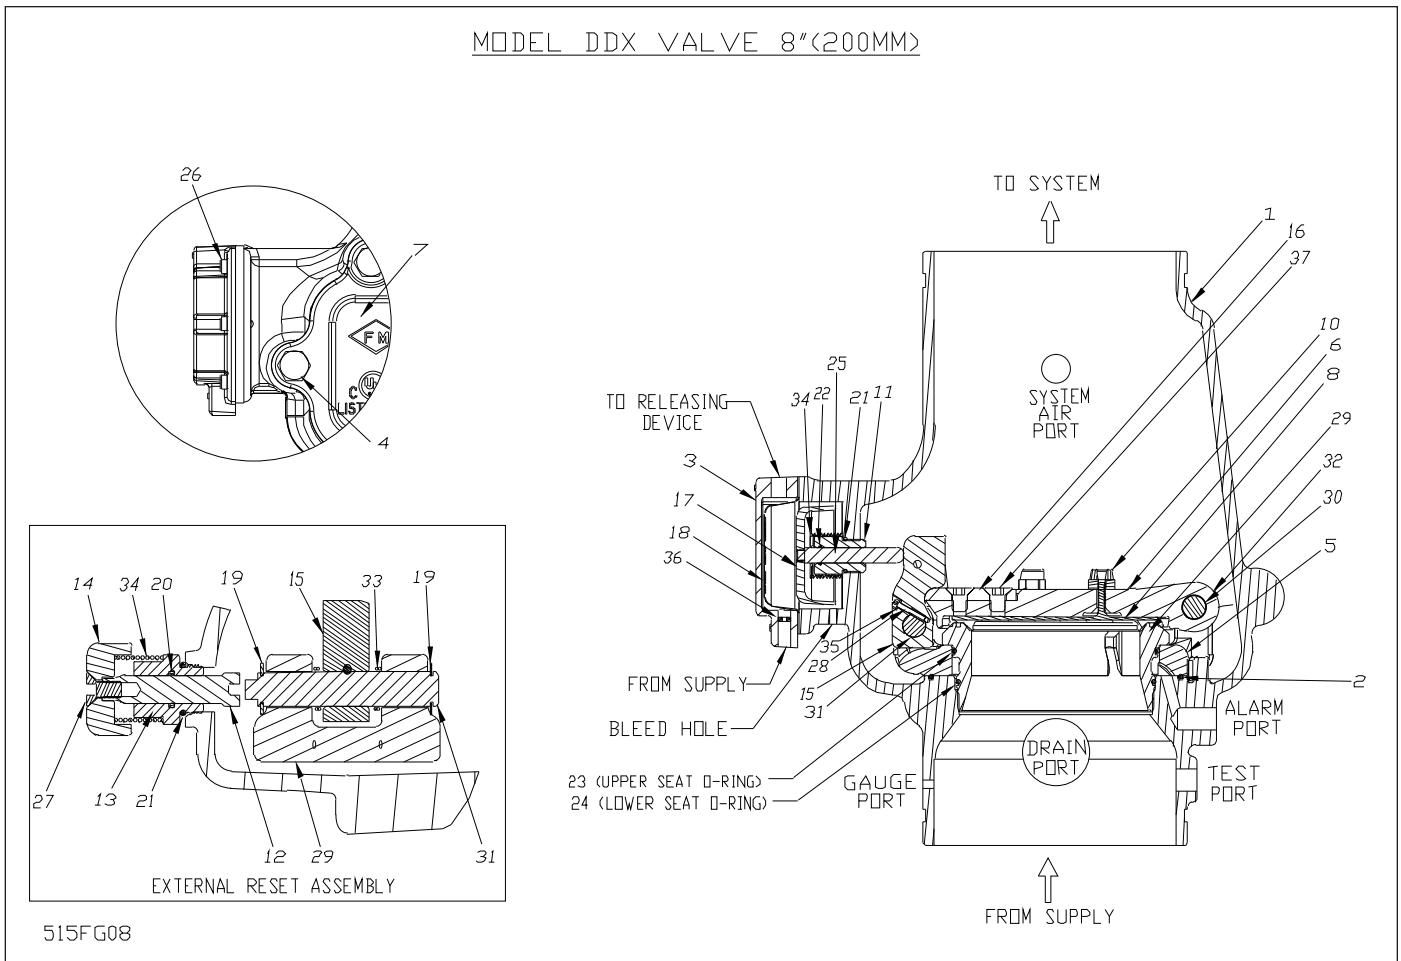
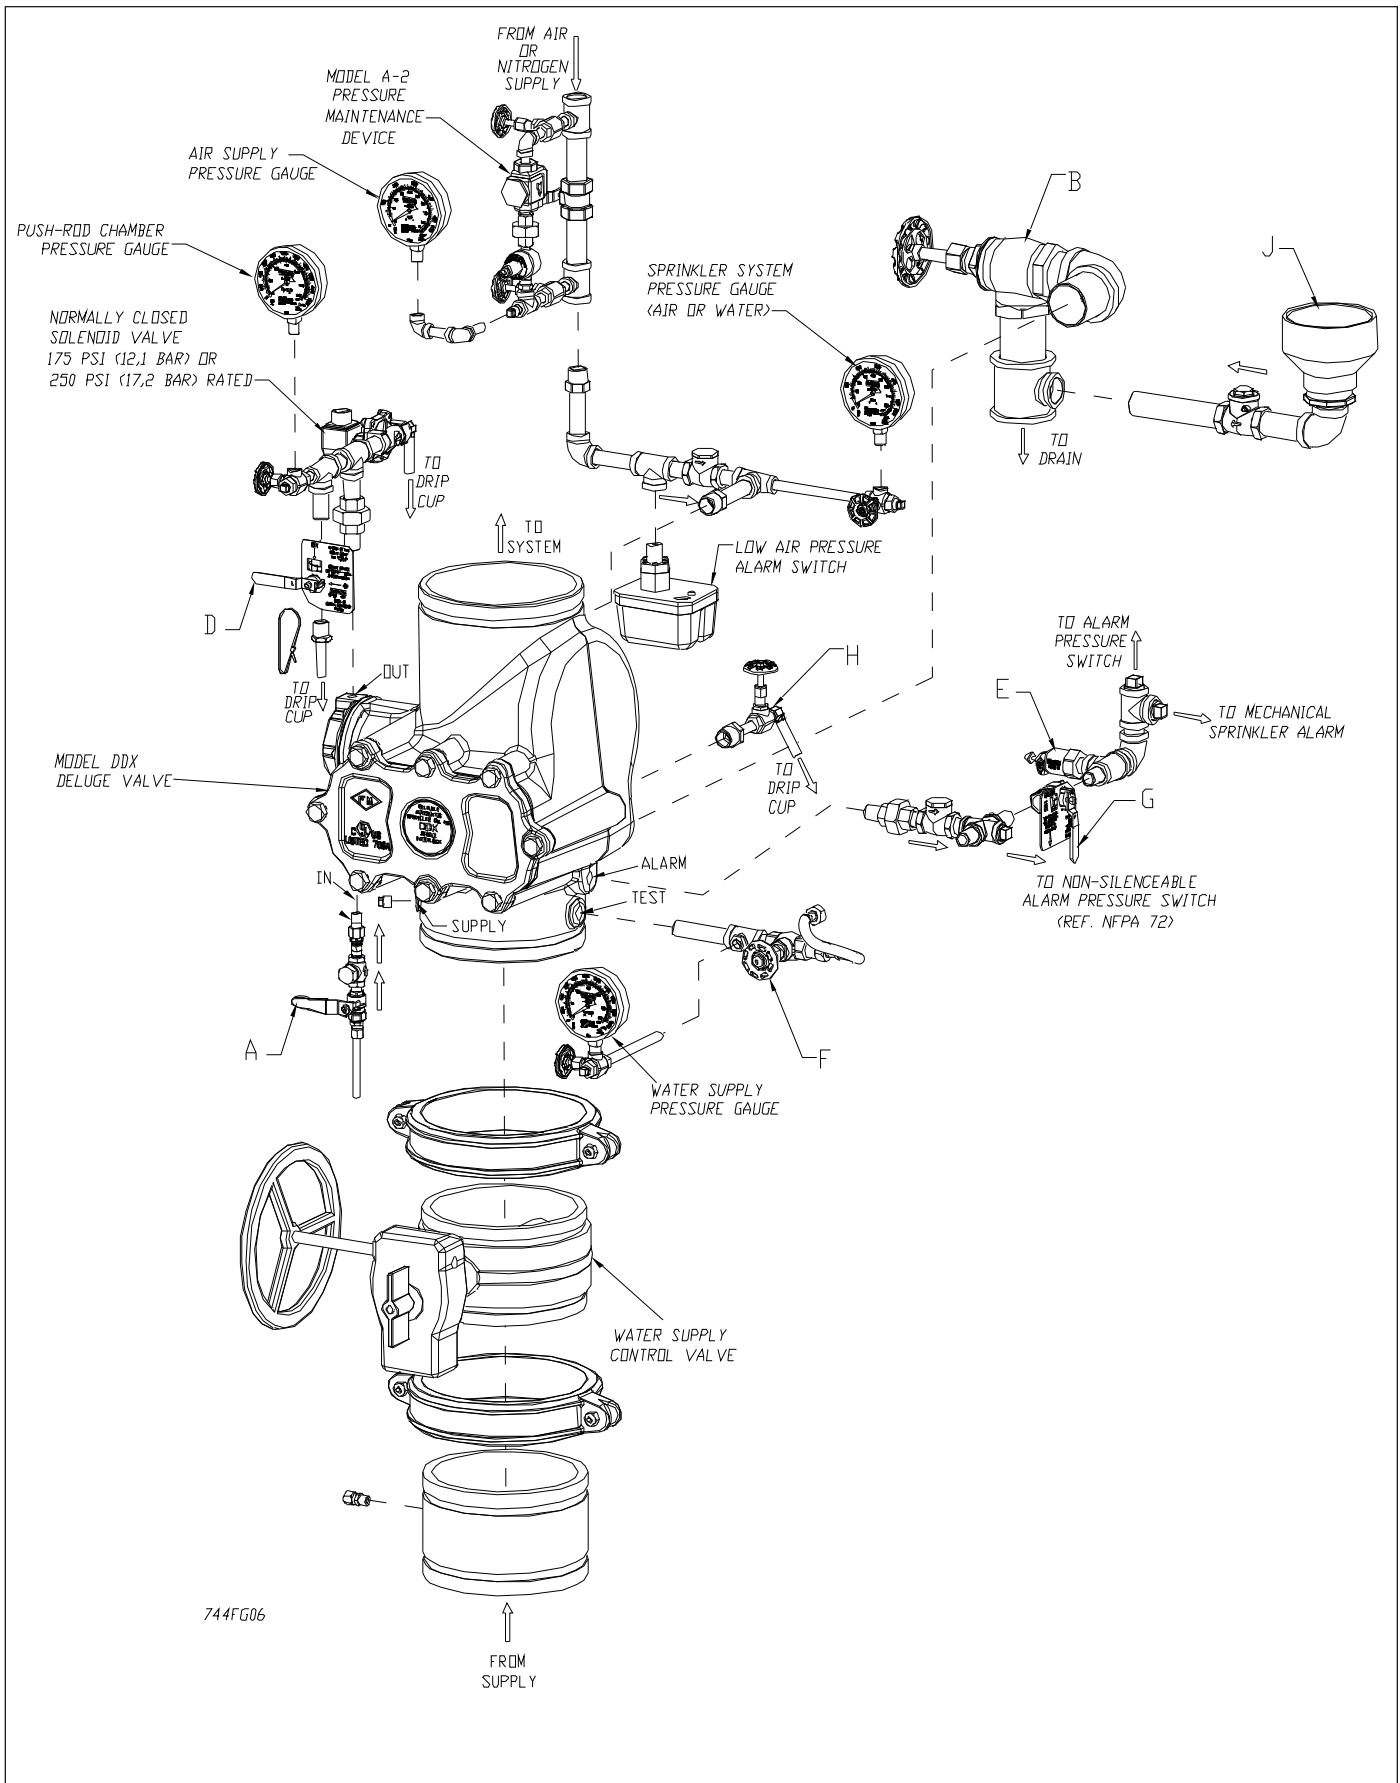

Fig. 5
Fig. 6
6. With the Model B Manual Emergency Station, valve D (Fig. 6), open, push in and rotate the Deluge Valve's external reset knob (#14, Fig. 5) clockwise until you hear a distinct clicking noise, indicating that the clapper has closed. **Note:** The reset knob can be rotated only while pressure in the pushrod chamber is vented to atmospheric conditions (0 psig).
2. **Alarm line** — be sure that valve G (Fig. 6) is opened and remains in this position.
3. **Other trimming valves** — check that valve A (Fig. 6) is open as well as all of the pressure gauge's 1/4" 3-way valves. Valves D, F, and H (Fig. 6) should be closed.
4. **Ball drip valve E (Fig. 6)** — make sure that valve G (Fig. 6) is open. Push in on the plunger to be sure the ball check is off its seat. If no water appears, the Deluge Valve's water seat is tight. Inspect the bleed hole (see Fig. 5) on the underside of the pushrod chamber for leakage.
Model DDX 8" (200mm) Deluge Valves Parts List (Refer to Fig. 5)
6. **Releasing device** — check outlet of the releasing device (i.e., solenoid valve or the Model B Manual Emergency Station, valve D (Fig. 6)) for leakage. Also verify that tubing drain lines from releasing devices are not pinched or crushed which could prevent proper releasing of the Deluge Valve.
7. **Testing alarms** — make sure that valve G is open. Open valve F (Fig. 6) permitting water from the supply to flow to the electric sprinkler alarm switch and to the mechanical sprinkler alarm (water motor). After testing, close this valve securely. Push in on the plunger of ball drip valve E (Fig. 6) until all of the water has drained from the alarm line.
8. **Operational test** — Open the Model B Manual Emergency Station, valve D (Fig.6), or operate by electrical actuation (refer to Bulletin 700, “Special Hazards & Special Systems” for details). Note: An operational test will cause the Deluge Valve to open and flow water into the sprinkler system.
9. Secure Model B Manual Emergency Station, valve D (Fig. 6), in the OFF position with a nylon tie (#57, Fig. 2) after the Deluge Valve is reset.
Refer to Fig. 6
2. Leakage out of the ball drip valve E (Fig. 6).
This condition can be caused by leakage past the system side of the Model DDX Deluge Valve’s seal assembly (#8, Fig. 5). Be sure that this surface is free of any type of debris. To eliminate leakage due to a water column, refer to the section in this bulletin marked “Draining Excess/Condensate Water From System”. If the problem continues proceed to the following section.
- b. **Leakage, air or water from the ball drip valve, E (Fig. 6):**
If system air is leaking out the ball drip valve, the problem is either damage to the airside of the Model DDX Deluge Valve’s seal assembly (#8, Fig. 5), seat (#29, Fig. 5), mounting ring O-ring (#2, Fig. 5), or the upper seat O-ring (#23, Fig. 5). If supply water is leaking out the ball drip valve, the problem could be caused by damage to the Model DDX Deluge Valve’s seal assembly (#8, Fig. 5), seat (#29, Fig. 5), or lower seat O-ring (#24, Fig. 5). The following section provides instructions to correct both conditions:
- A. Shut down the valve controlling the water supply to the Deluge Valve and open the 2” main drain valve B (Fig. 6). Open the water column drain valve H (Fig. 6). Close the pushrod chamber supply valve A (Fig. 6) and open the Model B Manual Emergency Station, valve D (Fig. 6).
- B. Remove the Deluge Valve’s front (handhold) cover (#7, Fig. 5) and inspect the seat (#29, Fig. 5), clapper (#6, Fig. 5), and seal assembly (#8, Fig. 5) for damage.
If inspection indicates damage to the seal assembly (#8, Fig. 5), replace as follows:
Remove the bumpstop nuts (#10, Fig. 5) and remove the seal assembly (#8, Fig. 5). Install a new seal assembly (#8, Fig. 5) and thread the bumpstop nuts (#10, Fig. 5) onto the threaded stud of the seal assembly (#8, Fig. 5) and tighten finger tight plus ¼ to ½ turn.
If inspection indicates damage to the clapper (#6, Fig. 5) only, then the clapper sub-assembly can be removed as follows:
At the rear of the valve, disconnect the water column drain trim section starting with the elbow connector (#14, Fig. 2). Then remove the 1/4" globe valve (#25, Fig. 2), followed by the 3/4" x 1/4" reducing bushing (#9, Fig. 2). Remove the retaining ring (water column drain line side) from the clapper hinge pin (#30, Fig. 5) and push this pin through the handhold cover and remove the clapper subassembly. Replace the seal assembly (#8, Fig. 5) as described previously. Inspect the clapper (#6, Fig. 5) visually before reinstalling. Reinstall in the reverse order making sure the clapper spacers are in their proper position. If the seat (#29, Fig. 5) is damaged or it is suspected that the leakage is through the lower O-ring (#24, Fig. 5), the seat-clapper subassembly is easily removed as a unit as follows:
Using Reliable P/N 6881608000 Seat Wrench, remove the seat by unscrewing. This will loosen the seat-clapper-mounting ring subassembly. Reach into the valve and grasp the seat and remove it. Then remove the clapper-mounting ring subassembly from the valve. Visually examine all components of the seat and clapper-mounting ring sub-assembly replacing any component that appears damaged. New O-rings (#2, #23 & #24, Fig. 5) should always be used for reassembly.
Clean the bore of the valve body. Lubricate the bore with O-ring grease. Lubricate and install the O-rings (#23 & #24, Fig. 5) onto the seat and O-ring (#2, Fig. 5) into the body (#1, Fig. 5). Insert the clapper-mounting ring sub-assembly into the handhold opening of the Deluge Valve. Align the mounting ring so that the Lever (#15, Fig. 5) is near the pushrod (#25, Fig. 5) and the mounting ring (#5, Fig. 5) "ears" are between the tabs of the valve body (#1, Fig. 5). Insert the seat (#29, Fig. 5) into the valve body (#1, Fig. 5) and through the clapper-mounting ring assembly. Start to tread the seat (#29, Fig. 5) into the body by hand, then tighten until the seat (#29, Fig. 5) with seat wrench 6881608000 until it bottoms out on the mounting ring (#5, Fig. 5). Verify that the seat-clapper-mounting ring subassembly is in the fully down position between the tabs of the body, and check to see that the lever (#15, Fig. 5) lines up with the push rod (#25, Fig. 5). Loosen and reassemble if necessary. Reassemble the handhold cover (#7, Fig. 5) and set up the Model DDX Deluge Valve as per the section "Resetting Model DDX Deluge Valve Systems."
A small bleed hole is located on the underside of the push rod chamber (see Fig. 5). If there is air or water leakage coming out of this hole, do the following:
- a. Shut down the valve controlling water supply to the Deluge Valve. Relieve the inlet pressure by opening the main drain valve B (Fig. 6). Close the valve A (Fig. 6) that supplies water to the pushrod chamber, and open the Model B Manual Emergency Station, valve D (Fig. 6).
- b. Remove the trim at the unions nearest to the pushrod chamber cover (#3, Fig. 5)
- c. Take the push rod chamber cover (#3, Fig. 5) off by removing the six retaining screws (#26, Fig. 5).
Water coming out of the bleed hole is caused by a leaking diaphragm (#18, Fig. 5). Visually inspect the pushrod chamber cover (#3, Fig. 5) and piston (#17, Fig. 5) to determine what could have damaged the diaphragm and correct. Install a new diaphragm.
Roll the diaphragm so that the smooth surface (the pressure side) conforms to the inside of the push rod chamber cover and reassemble the six retaining screws (#26, (Fig. 5) with an installation torque of 15 foot-pounds. Set up the Model DDX Deluge Valve as per the section "Resetting the Type D Double Interlock Praction System"
System air coming out of the bleed hole is caused by a defective O-ring assembled to the push rod guide (#11, Fig. 5). Remove the piston-push rod subassembly, push rod spring (#34, Fig. 5), and push rod guide (#11, Fig. 5). Verify by hand turning, that the push rod cannot be unscrewed from the piston. Replace all O-rings and the push rod guide (#11, #21 & #22, Fig. 5). The correct installation torque for the push rod guide is 35 inch-pounds.
CAUTION: Do not over-tighten the push rod guide. Reassemble the components that were initially removed. Re-install the diaphragm (#18, Fig. 5) if it appears to be in good shape, otherwise, replace it also.